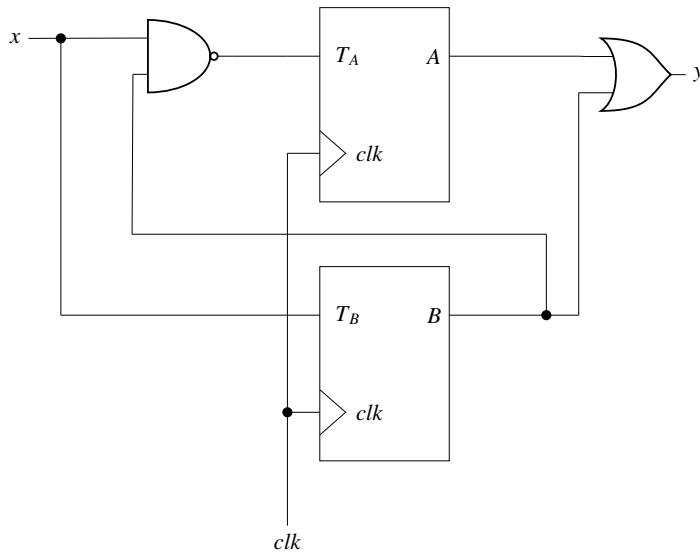

Fig. 5.24
25. Two T-flip flops are interconnected as shown in Fig. 5.24. The present state of the flip flops are:  $A = 1, B = 1$ . The input x is given as 1, 0, 1 in the next three clock cycles. The decimal equivalent of  $(ABy)_2$  with A being the MSB and y being the LSB, after the 3rd clock cycle is \_\_\_\_\_. (GATE IN 2020)